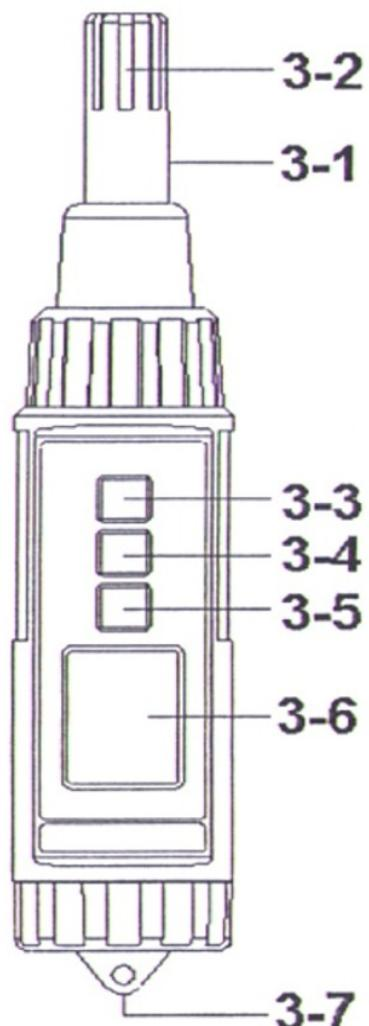

Fig. 1
- 1) Turn on the meter by pressing the " Power Button " ( 3-3, Fig. 1 ) momentarily.
\* Pressing the " Power Button " ( 3-3, Fig. 1 ) momentarily again will turn off the meter.
Pressing the " Mode Button " ( 3-5, Fig. 1 ) continuously ( not release the button ), the Display will show the following 4 kind screens in sequence :
Until the Display show the desired model ( Function ), just release the " Mode Button " ( 3-5, Fig. 1 ), the meter will execute this function with default.
- 2)Turn on the meter by pressing the " Power Button " ( 3-3, Fig. 1 ) momentarily.
- 3)Under the Barometer mode, ressing the " Unit Button " ( 3-4, Fig. 1 ) continuously ( not release the button ), the upper Display will show the following indicator in sequence :
Until the Display show the desired unit, just release the " Unit Button " ( 3-4, Fig. 1 ), the meter will execute this measuring unit with default.
- 2) Use one finger to press ( not release ) the " Hold Button " ( 3-4, Fig. 1 ), turn on the meter by pressing the " Power Button " ( 3-3, Fig. 1 ) momentarily, until the temperature unit ( °C, °F ) of Display is lit, then release the " Hold Button " will change the Temp. unit from °C to °F or °F to °C with default.
- \* During the measurement, press the " Hold Button " ( 3-4, Fig. 1 ) momentarily to hold the measured value. The LCD will show a " HOLD " symbol.
- 1) The data record function records the maximum and minimum readings. Press the " REC Button " ( 3-5, Fig. 1 ) momentarily to start the Data Record function, shows " REC " on the display.
- a) Press the " REC Button " ( 3-5, Fig. 1 ) momentarily, the " REC MAX " symbol along with the maximum value will appear on the display.
- b) Press the " REC Button " ( 3-5, Fig. 1 ) momentarily again, the " REC MIN " symbol along with the minimum value will appear on the display.
*\* When display shows " REC MAX " or " REC MIN ", press the " Hold Button " ( 3-4, Fig. 1 ) momentarily will delete the max. ( min. ) value, the display will show the " REC. " only and execute the memory function continuously.*
- 2) To de-activate this feature, Select the memory record function during measurement, by pressing the " REC Button " ( 3-5, Fig. 1 ).
- \* To change the batteries, open ( rotate clockwise direction ) the " Battery Cover " ( 3-7, Fig. 1 ).
- \* Make sure the " Battery cover " (3-7, Fig 1) is secured after changing the batteries.